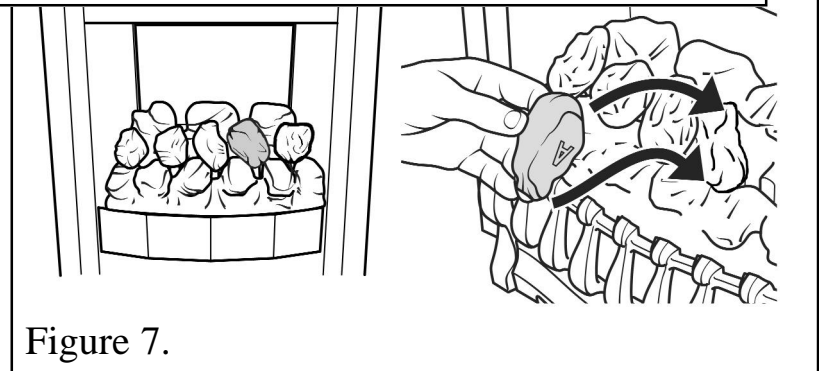

Figure 7.
**7.** Place the remaining type “A” coal between the front and rear base coals. The letter “A” should be upside down with its rear face between the right and centre coals of the rear base coal. Angle the coal so that the gap between it and the type “B” coal to its right is appreciably larger than the gap between it and the type “A” coal to its left but do not have it touching the type “A” coal. This will give the best flame effect (See figure 7).